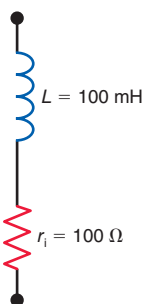

Figure 20-20
20.17 For the inductor shown in Fig. 20-20, calculate the Q for the following frequencies: